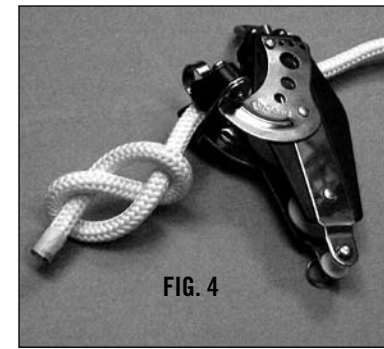

FIG. 4
4. (FIG. 4) Tie a figure of eight in the end of the line to keep it from backing out of the cleat.